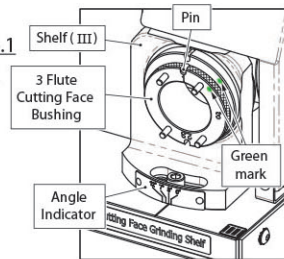

Fig. 7-3
3. Cutting Face Grinding Shelf (III) (Fig. 7-3)
- ① Adjust the Shelf (III) to 3°.
- ② Insert 3 Flute Cutting Face Bushing into the Shelf (III), align No.1 of the bushing to the pin on the shelf, then insert it to the end.